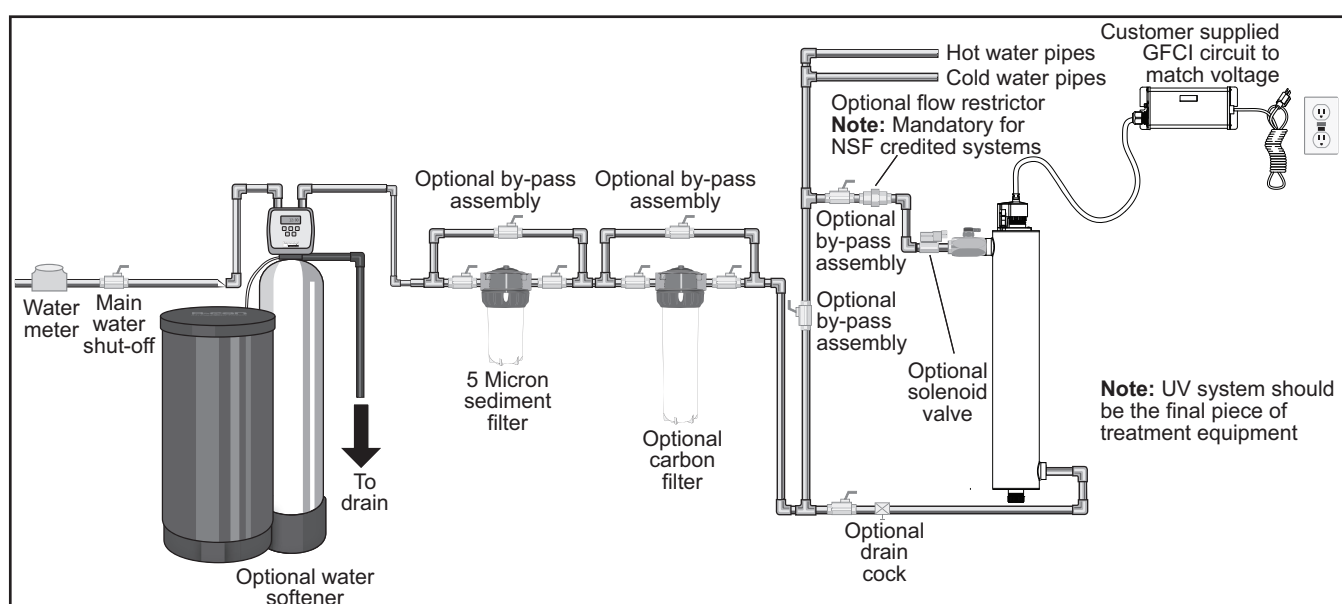

Figure 3 UV Treatment System
1. **Figure 3** shows the installation of a typical UV system and the related components that may be used for the installation. The use of a by-pass assembly is recommended in case the system requires “off-line” maintenance. In this case, it requires a supplementary disinfectant for the distribution system if any water is used during by-pass condition. In addition, during by-pass, the water will NOT be treated and a “DO NOT CONSUME THE WATER” tag should be physically installed on the by-pass assembly until such time as the system is sanitized and returned to service. For more information, refer to Section 3.2. If the water is to be consumed while the system is off-line, the water must be boiled for twenty minutes prior to consumption.